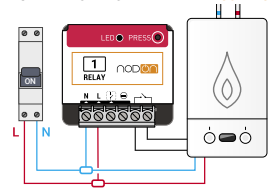

Figure 3
- Wire the Multifunction Relay Switch following the diagram figure 3, making sure to connect the two wires which controls the ambient thermostat (see your boiler user guide).